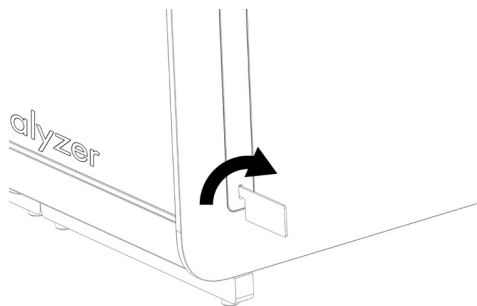

Figure 5. Removing protective covers.
2. Remove the protective covers from the side of the Analytical Module using the Protective Cover Removal Tool delivered with the QIAstat-Dx Analyzer 1.0 (Figure 5, next page).